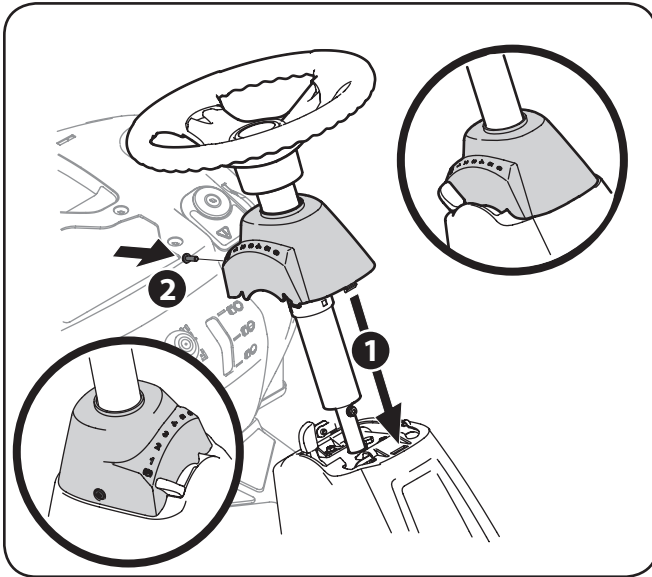

Figure 3-3
7. Slide the Pedestal cap down onto the tractor (1) and slightly rotate to the right to clip into place. Secure the pedestal with the screw (2) previously removed. See Figure 3-3.